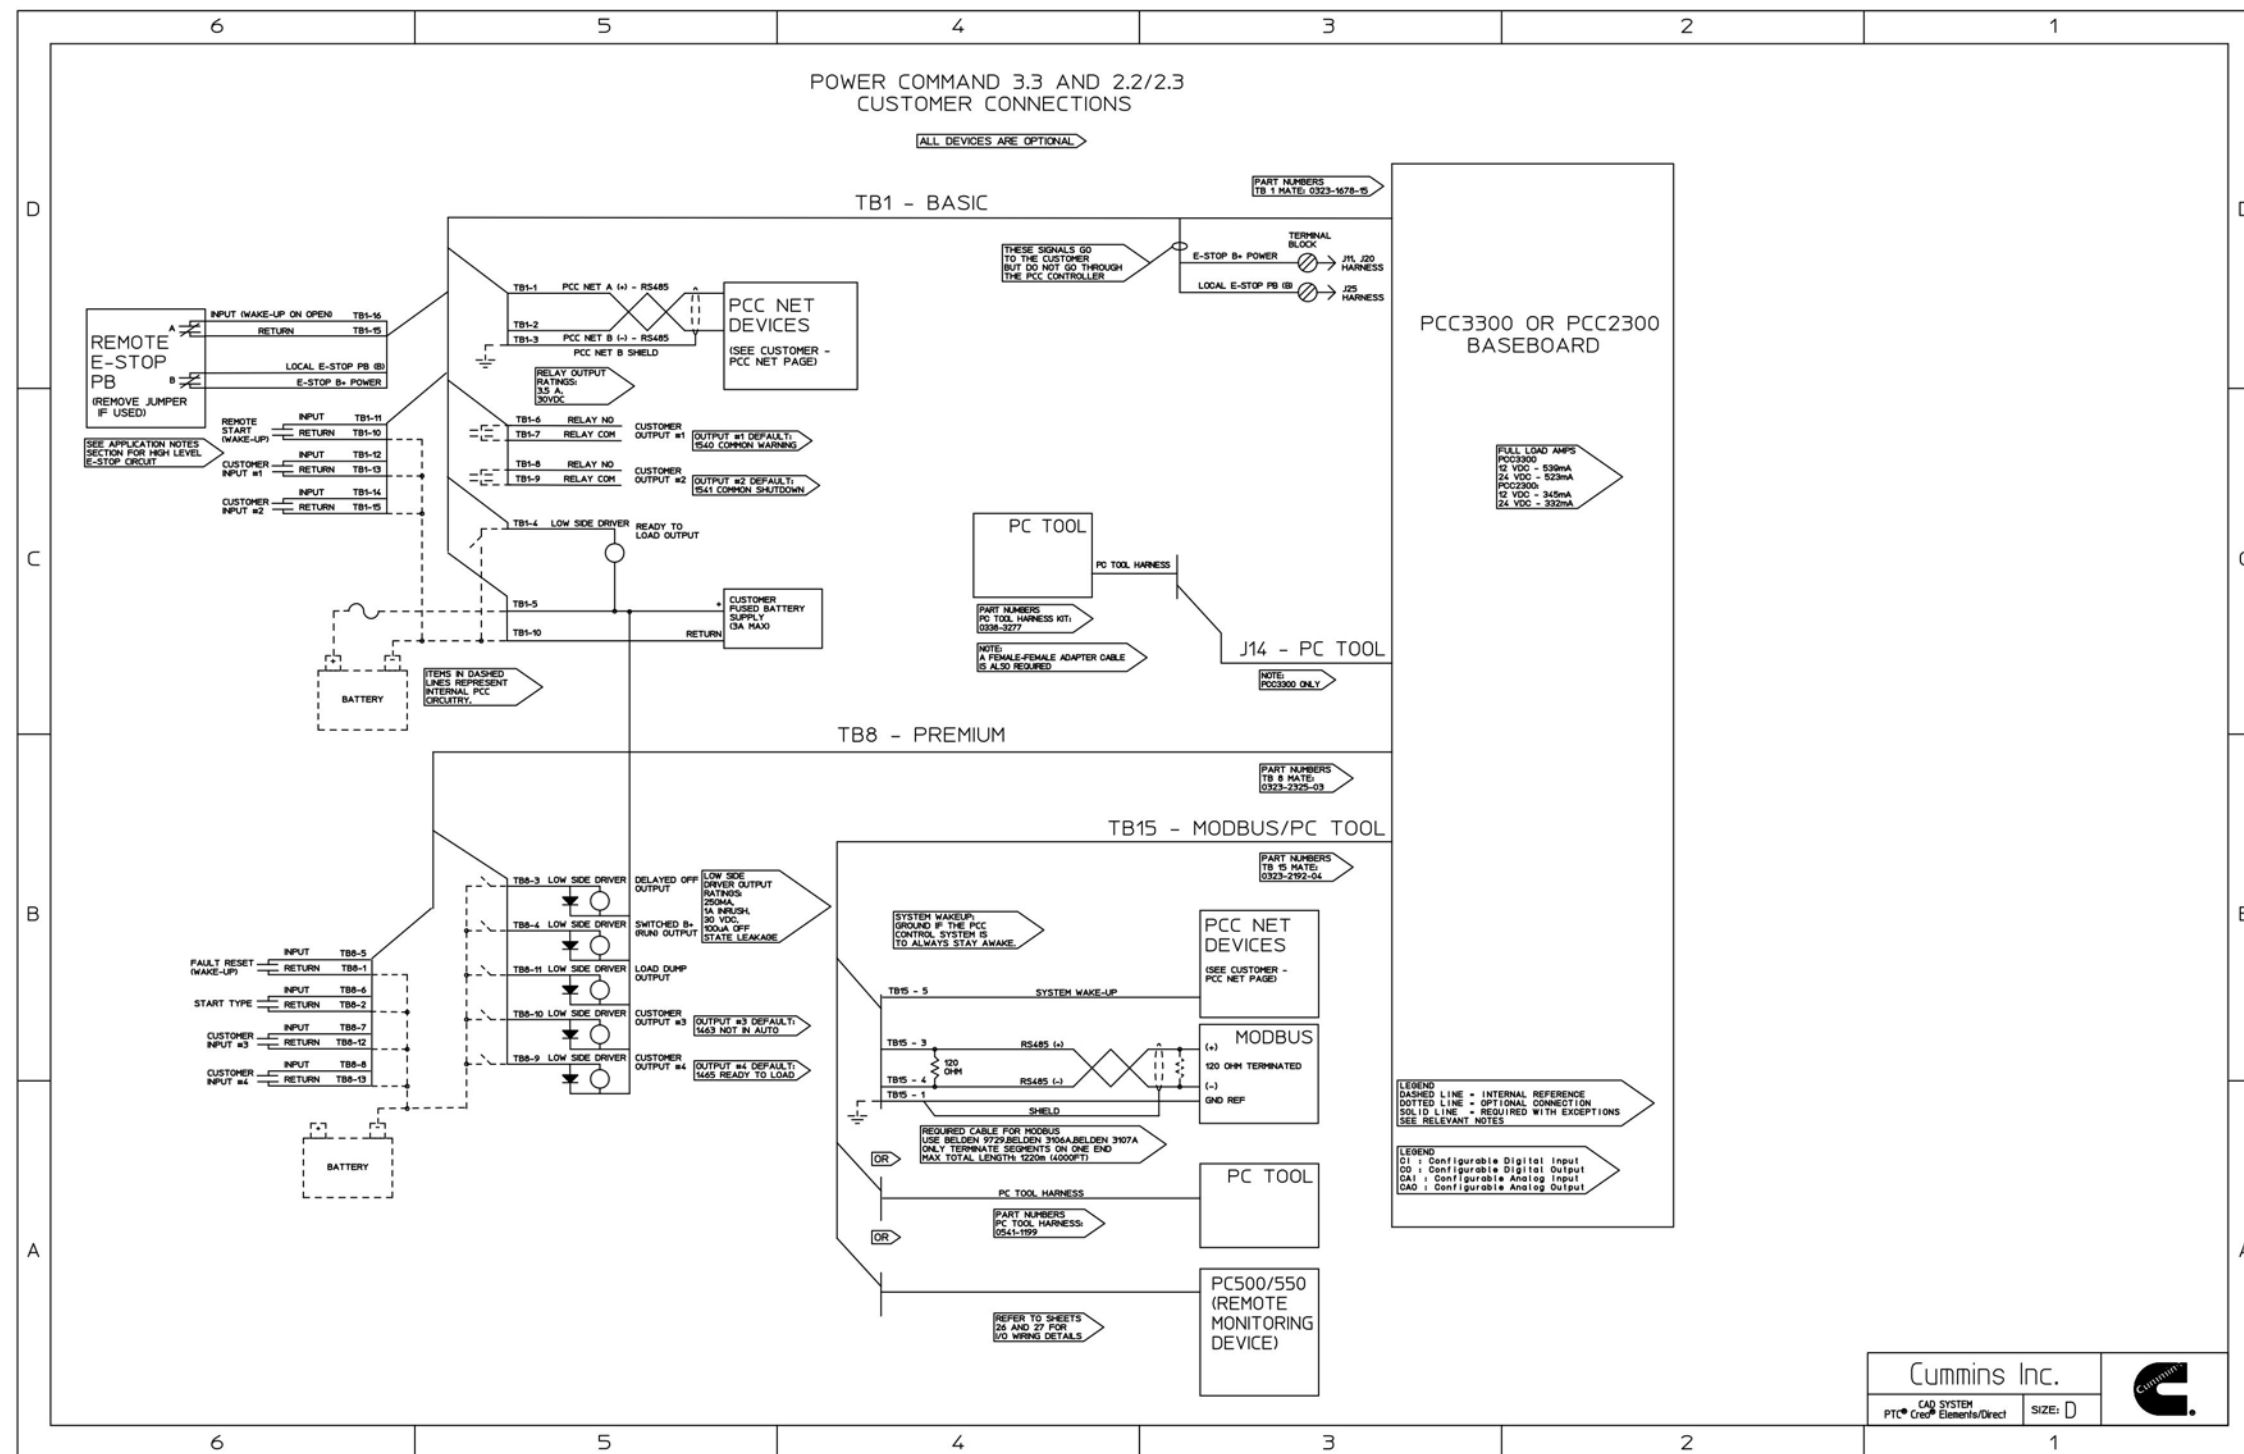

FIGURE 73. CUSTOMER CONNECTIONS
- Figure 73. Customer Connections 128